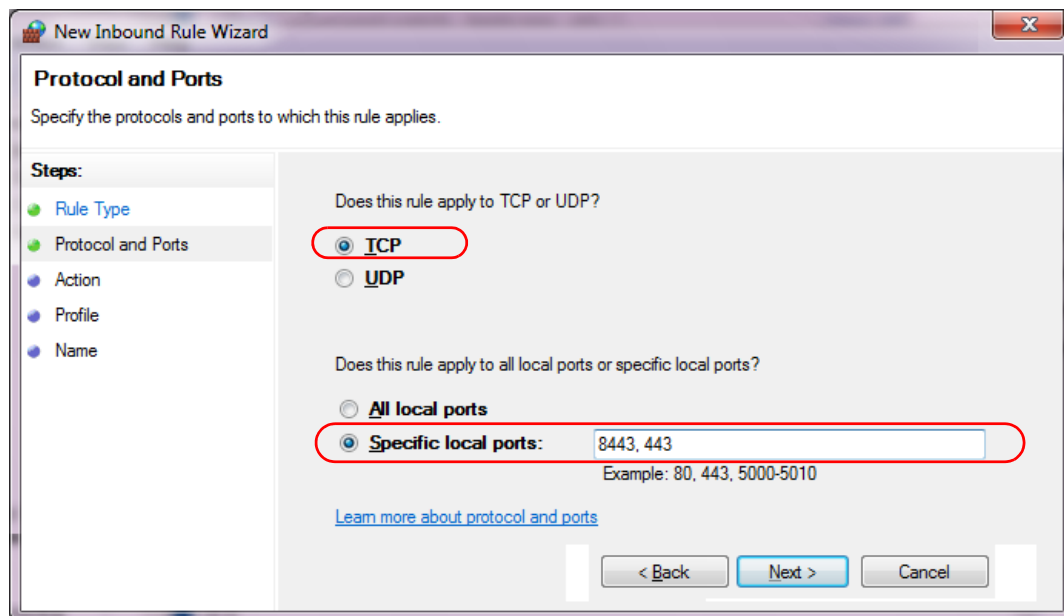

Figure 3-2: Specifying the ports
- 5 Select **TCP**, then select **Specific local ports** and type the port number or numbers, as shown in Figure 3-2, then click **Next**.